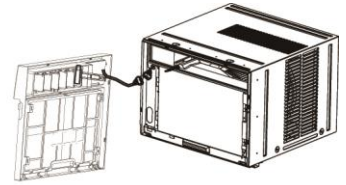

Fig.4
- Disconnect the plug of the display panel from the unit and place the front panel to the side. (Figure 4)